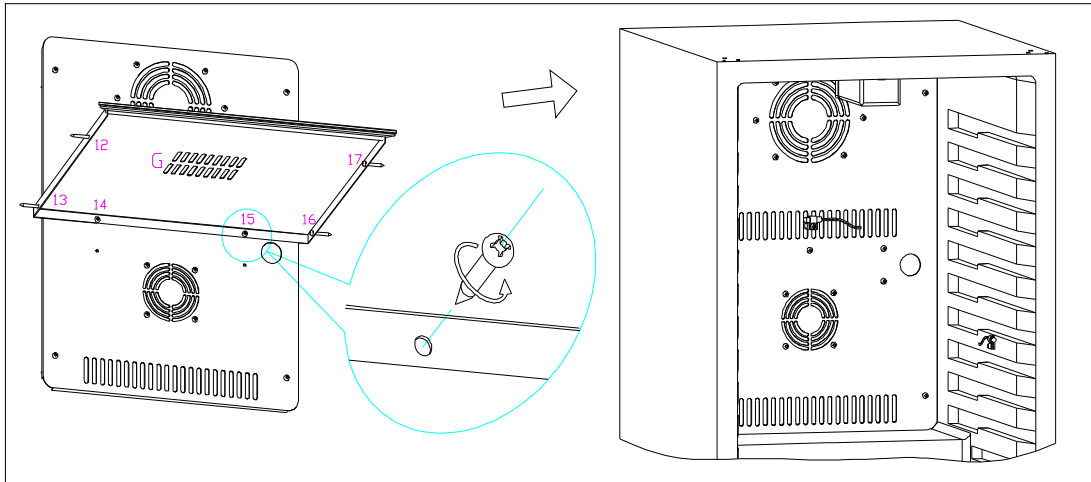
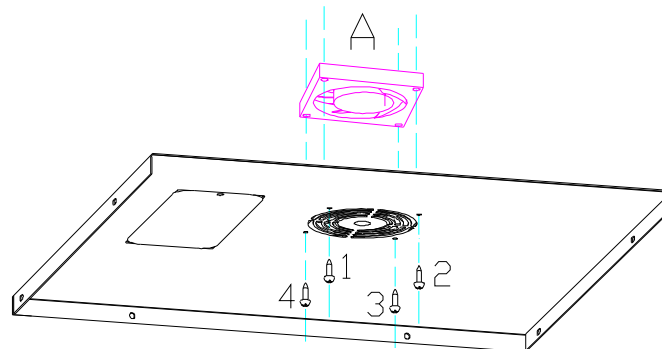

Fig.9
Fig.24
d. Take off the screws of middle air-duct (12, 13, 14, 15, 16, 17), remove the upper cover of the middle air duct board(G), and expose the air-duct cover. (Fig.9)
3>, Regarding the old version electrical box, remove middle air-duct board lower cover(Fig.9), and remove the screw (1, 2, 3, 4), replace the air circulating fan (A) . (Fig.24)